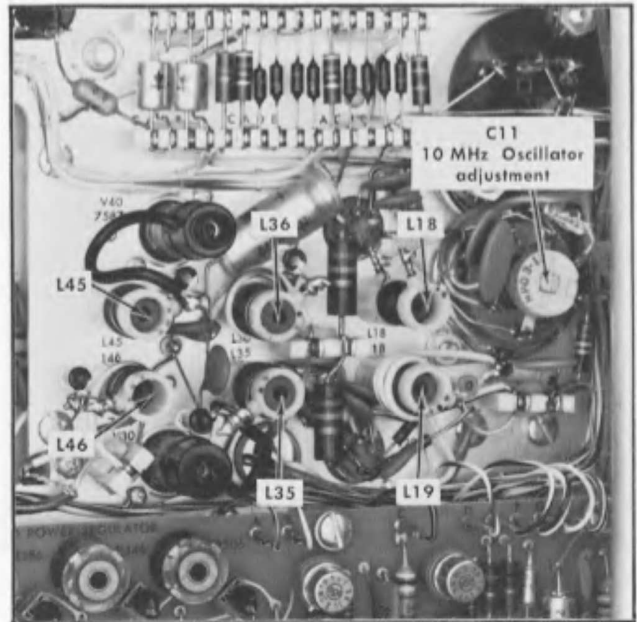

Fig. 6-7. 10 MHz (.1 μ s) 50 MHz (20 ns) and 100 MHz (10 ns) oscillator and multiplier adjustments. Step 4, 10.
- Adjust L18 (Fig. 6-7) midway between the two signal maximum amplitude points.
- Change the A Time/Cm switch to .5 μSEC position and adjust L19 (Fig. 6-7) for marker amplitude and uniformity.